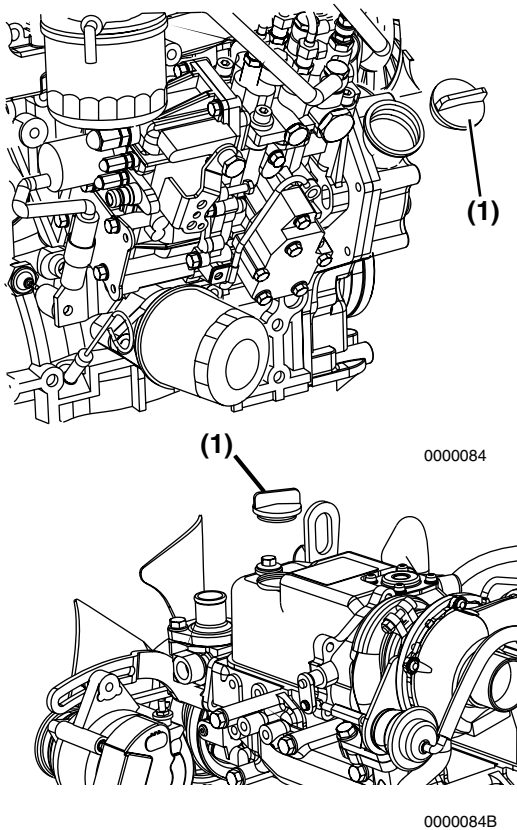

Figure 5-1
- 4. Remove one of the oil filler caps (Figure 5-1, (1)) to vent the engine crankcase and allow the engine oil to drain more easily.